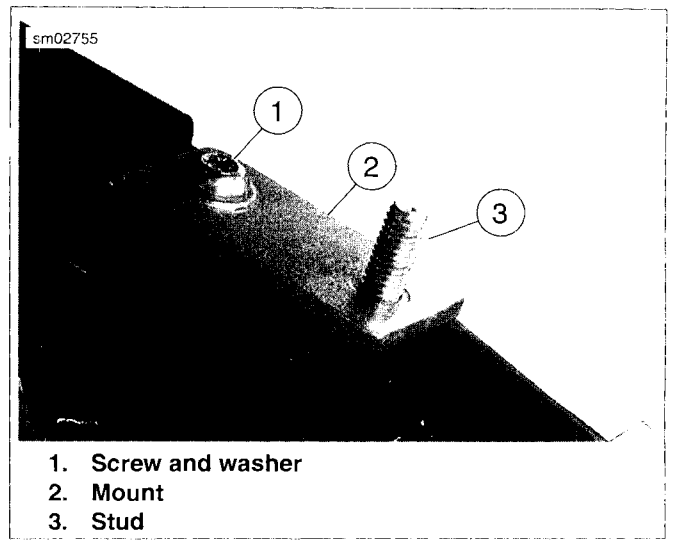

Figure 4-11. Rear Mount: FXCWC
- b. See Figure 4-11. Align end of tank over stud (3) on frame. Install nut and washer. Tighten to 14-18 ft-lbs (19.0-24.4 Nm).